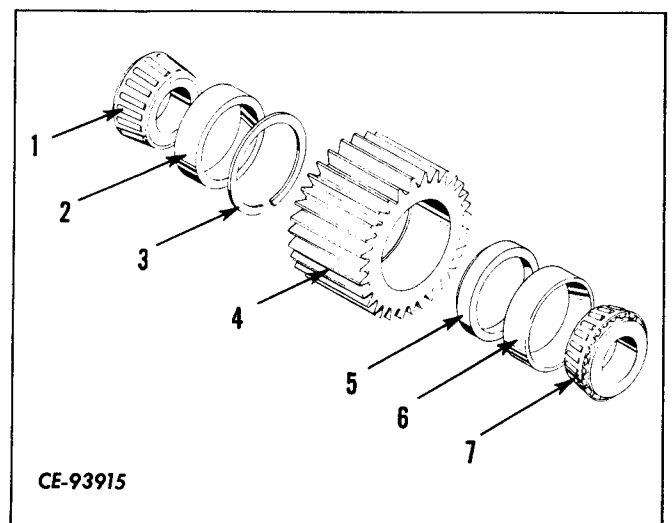

Figure 6-74
Inspect the pinion bearings (1, 2, 6, 7, Fig. 6-74). Check for smooth, free rotation. If the bearings do not operate properly, remove the bearing cups (2, 7), spacer (5) and snap ring (3) from the pinion gears.
Install a new snap ring (3, Fig. 6-74) in the groove in the pinion bore.